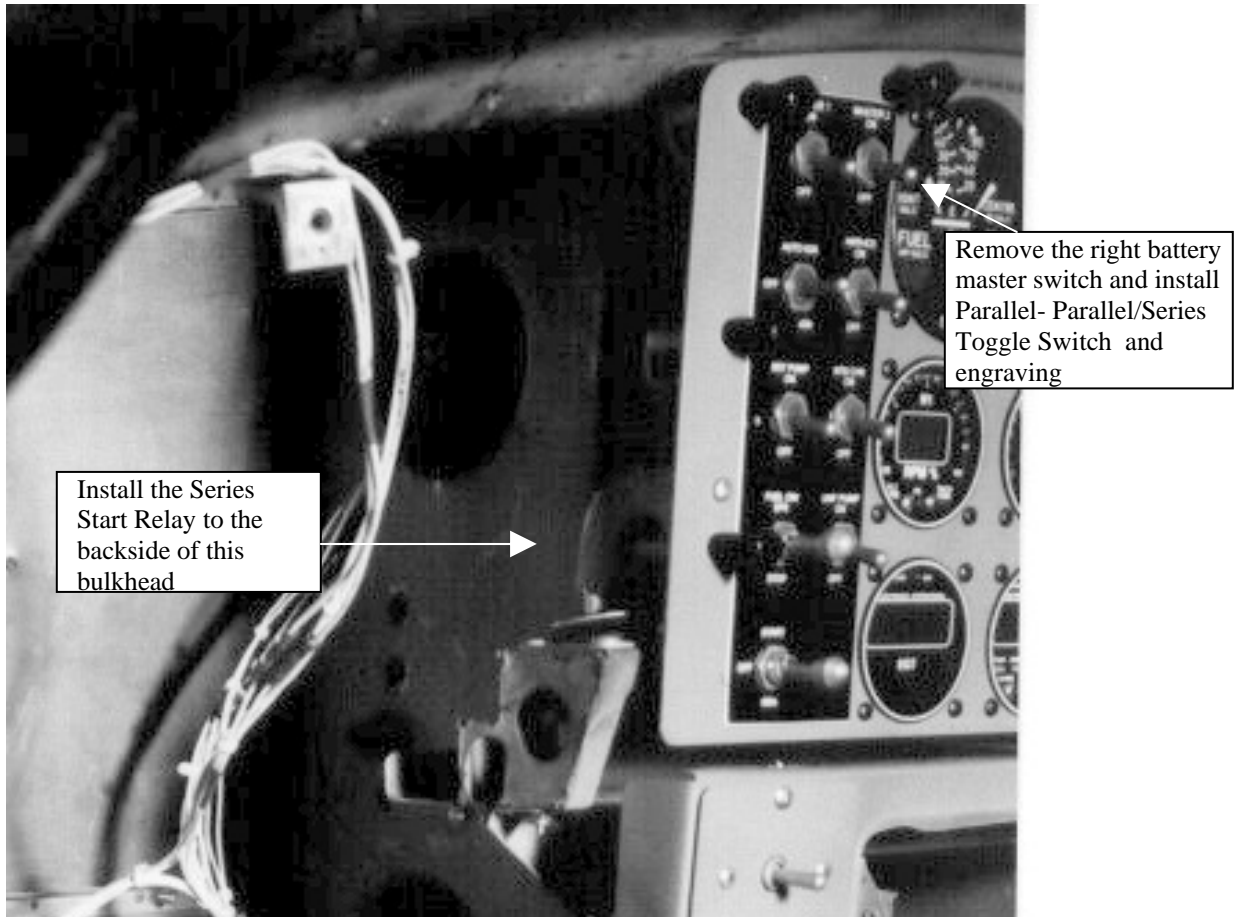

Figure 4
29. Install the series start relay (PN. KUP-5D55-24) on the left bulkhead as depicted in figure 4 using two MS27039-0808 screws, two AN960-08 washers, and two MS21083N08 nylon nuts.